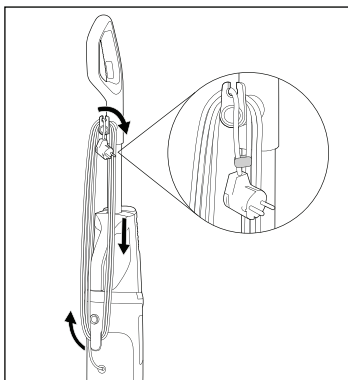

Fig. 3
- ◆ Wind the power cable **17** completely around the upper and lower cable retainers **16/20** (see fig. 3).